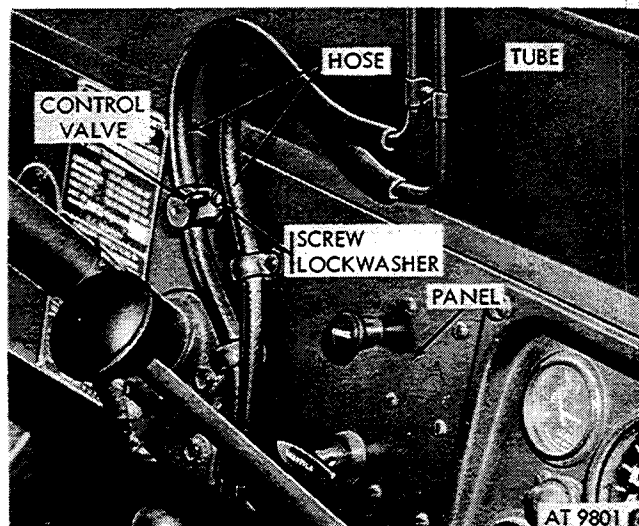

Figure 2-390. Remove windshield wiper control valve (M151, M151A1, M151A1C, and M718 vehicles).
*a. Removal.* Refer to figure 2-390.
(1) Pull rubber hoses from wiper control valve.
(2) Remove screws securing control valve.
(3) Remove control valve from dash panel.
- (1) Remove canvas top (TM 9-2320-218-10).
- (2) Disconnect vacuum hoses from vacuum tubes. Refer to figure 2-390 (M151, M151A1, M151A1C, and M718 vehicles only).
- (3) Disconnect electrical connector and remove cable clamp at windshield wiper motor.